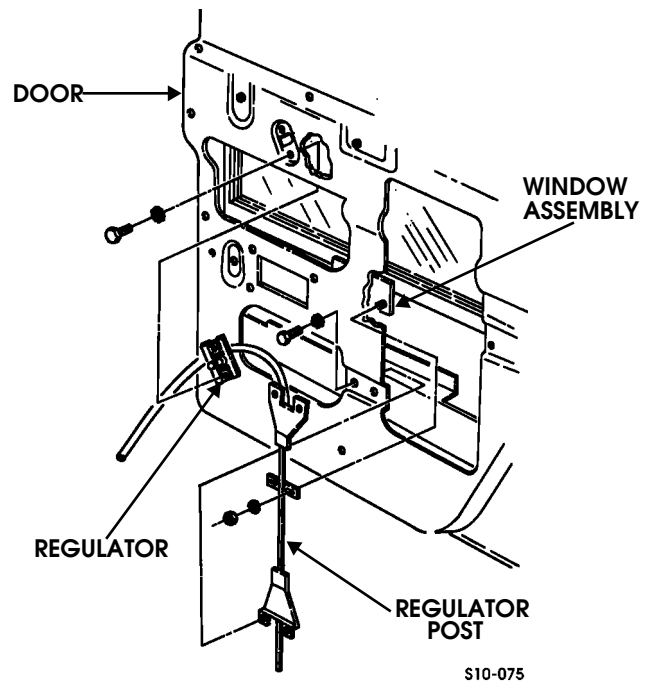

Figure 10-67: Window Regulator Mounting
1. Remove nuts and lockwashers securing regulator post to window assembly (Figure 10-67).